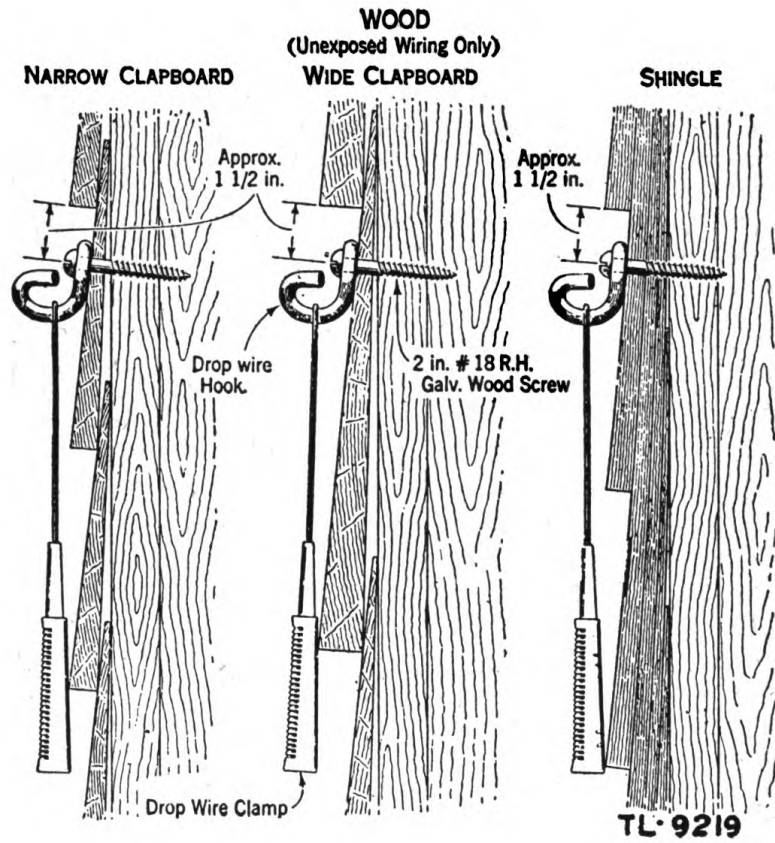

Figure 24. Drop wire hook installed on wood surface.
(5) Various installations of drop wire hooks are shown in figure 24.